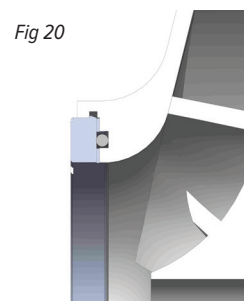

Fig 20
4. Place the impeller and impeller drive assembly in an arbor press. Using a soft faced arbor, gently press the impeller thrust ring into place. Make sure thrust ring is completely seated. See figure 20.